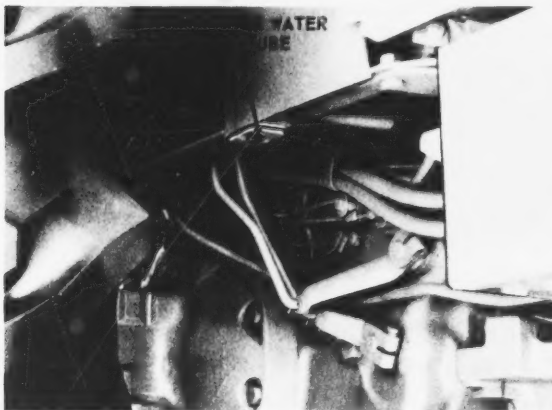

Fig. 11—Evaporator Water Drain Tube
13. If water is not draining from the evaporator properly, check the evaporator drain tube trap (Fig. 11) for clogging or a dry trap.